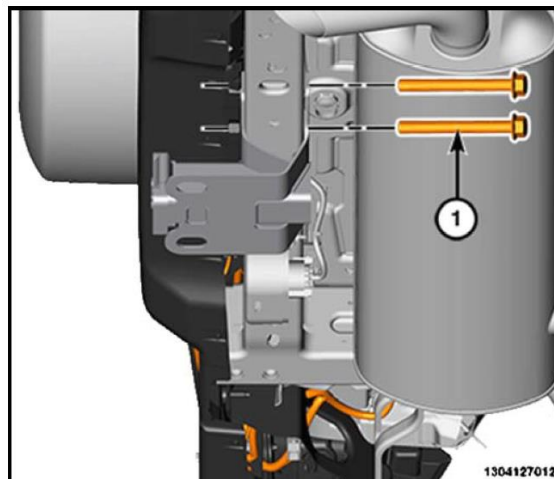

Figure 2
- C. Next remove the two outside hitch bolts designated (1) in figure 2.